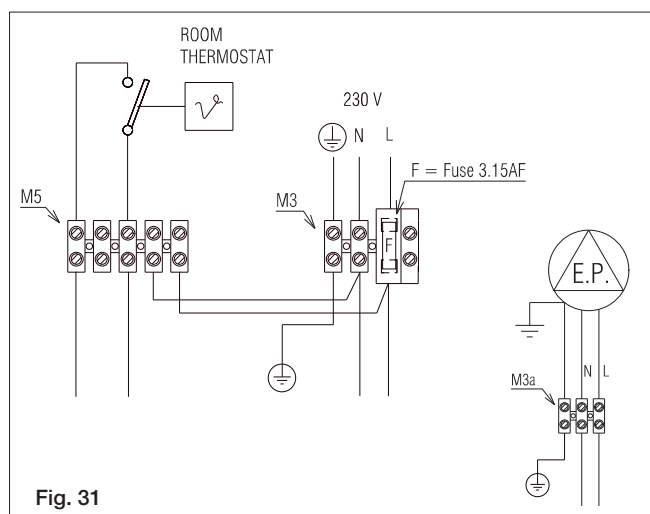

Fig. 31
- THE ELECTRICAL SUPPLY TO THE PUMP MUST BE CONNECTED TO THE TERMINALS AS SHOWN IN FIG. 31
- A PERMANENT 230V SUPPLY MUST BE CONNECTED TO THE BOILER AS SHOWN IN FIG. 31